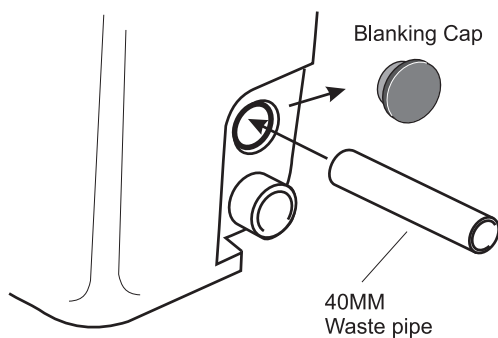
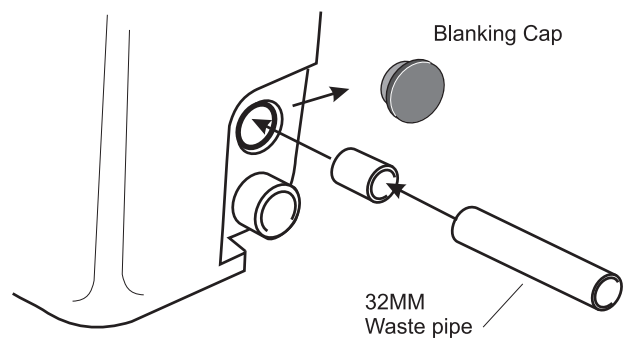

Fig. 8a
Fig. 8b
The Powerflush™ comes provided with two low level inlets for connection of a basin, shower or bidet and are positioned on either side of the unit at 74mm from floor to centre. The inlet comprises of a push in seal with Non-return Valve and a blanking cap. To utilise the inlet you must first remove the plastic blanking cap to expose the rubber seal (See Fig. 8a). Make sure that the position of the seal is such that the letters OBEN are at the top of the seal and then push into place the 40mm waste pipe from the basin, shower, etc. If the inlet pipe is 32mm then you must push the Straight Coupling (I) into the seal (see Fig. 8b) and Solvent Cement to fix the Waste Pipe. The fall required for incoming pipe work from additional appliances should be 1:40 and when connecting a shower to the Powerflush™ the shower tray must be at least 150mm from the floor.